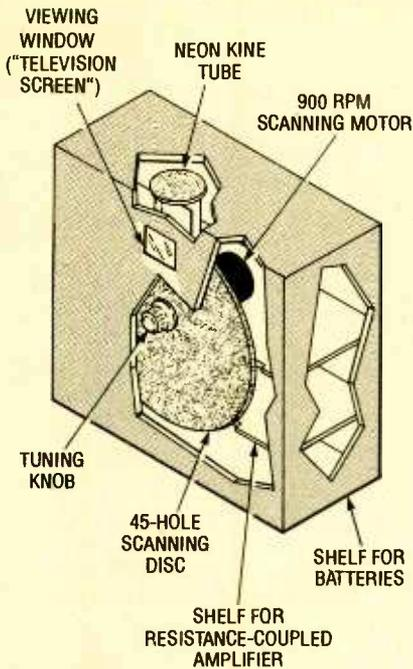

Fig. 1. This is a phantom view of a mechanical television receiver. Notice the relationship between the view screen disc and neon kine tube.
Inside the Transceiver. Figure 1 is a complete schematic diagram of the Ultrasonic CW Transceiver. The circuit consists of little more than a pair of 567 phase-locked loop IC's and eight transistors—seven 2N3904 general-purpose NPN silicon transistors and one MPF102 N-channel JFET. The remaining circuit elements serve support functions.
Fig. 1. The Ultrasonic CW Transceivers consist of little more than a pair of 567 phase-locked loop IC's and eight transistors—seven 2N3904 general-purpose NPN silicon transistors and one MPE102 N-channel JFET. The remaining circuit elements are nothing more than support components.
cable was used to connect the piezo transducer to the circuit. Assemble the circuit using Fig. 1 as a wiring guide.
First he prepared the shiny, 24-inch 20-gauge aluminum disc. Grandfather used a compass to find the center of the disc. Then he marked 45 even pie wedges on the disc. Next, he measured and center-punched the locations for 45 holes. He arranged these holes in three spirals. On a local machine shop's drill press, Grandfather drilled the center hole and the 45 "scanning holes". Then he located a large radio knob with a wide apron in his junkbox. He bolted the apron to the disc (see Fig. 1) with the knob's hole aligned with the center hole of the disc.
Oliver Lodge had spent only about two weeks performing some preliminary "alternate-path" experiments to confirm his theories prior to the lectures. He had used Leyden-jar discharges to simulate lightning flashes. The Leyden jars were usually charged using a "Voss machine" that generated static electricity through friction. The experimental arrangement used by Lodge is shown in Fig. 1.
Fig. 1. This is a depiction of the apparatus used by Lodge to demonstrate that lightning is a high-frequency discharge. It would rather flow through the high DC-resistance air gap (B) rather than the low DC-resistance wire (L).